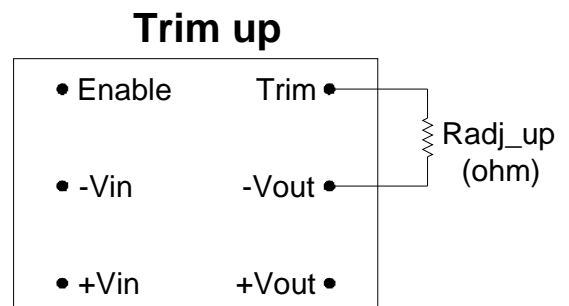

Figure 2. Circuit Configuration to Increase Output Voltage
**To adjust  $V_o$  to a higher value**, please refer to Figure 2.